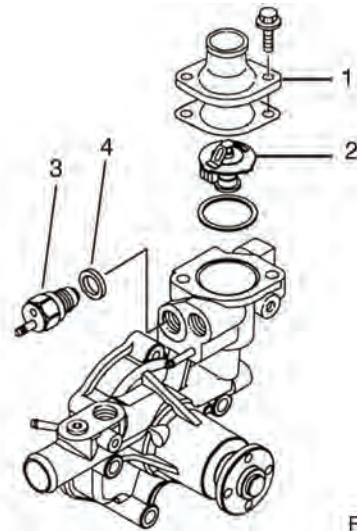

Figure 309
1. Remove the thermostat cover (1, Figure 309) Discard the gasket.
2. Remove the thermostat (2, Figure 309). Discard the O-ring. Remove the temperature switch (3, Figure 309) and gasket (4, Figure 309). Discard the gasket.